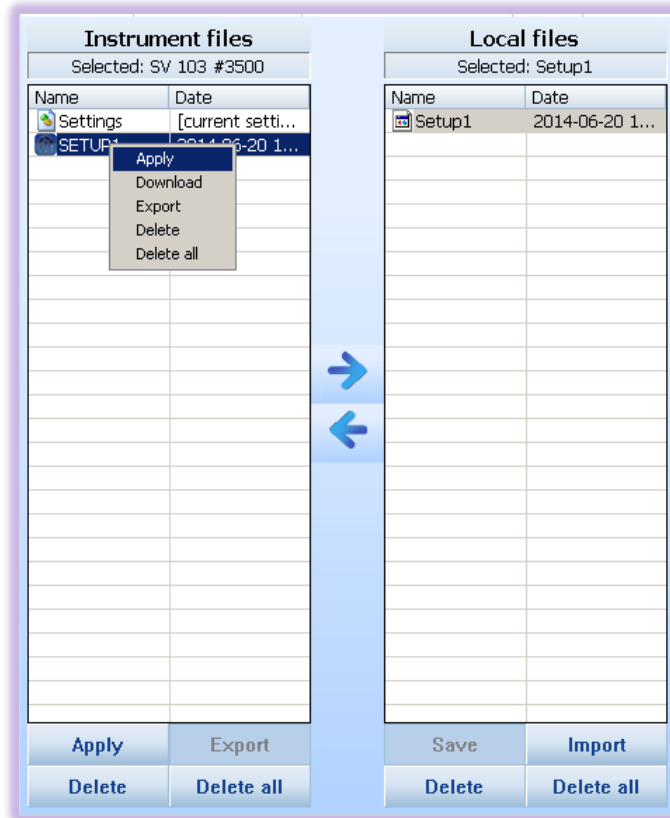

Figure 5-6 "Instrument files" panel and context commands
11. Once copied select the copied file in the Instrument files, and right click onto it to open context menu. Then choose **“Apply”** command (Figure 5-6). Alternatively, you can enter the **“Load Setup”** menu directly in the instrument and load it as the current configuration. See chapter 4.4 for details.